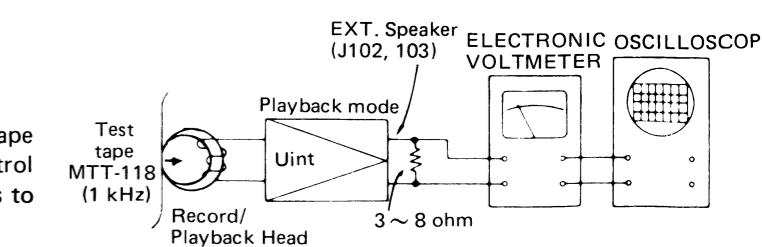

Figure 6-4
1. Connect instruments as shown in Figure 6-4.